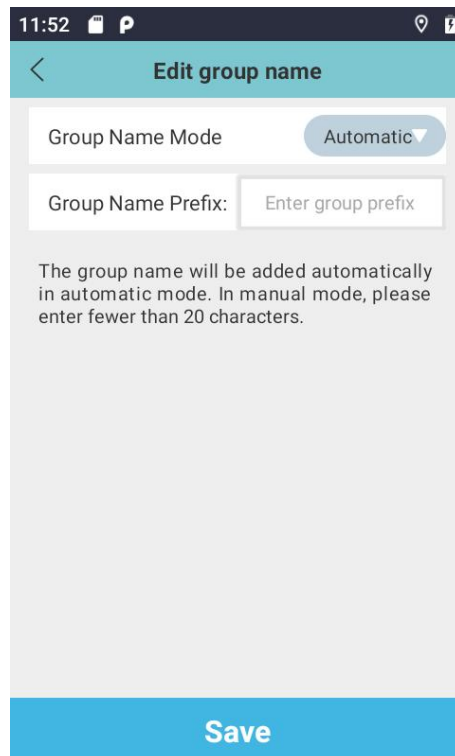

Figure 6.4
- b. Group Name: A text box showing the measurement location name. By default, an automatic group name is generated based on the measurement date and a three-digit serial number (e.g., 20250629000). The serial number increments automatically with each measurement. If the serial number reaches its three-digit limit, an additional digit is automatically appended. Group Name Editing: Clicking the group name field allows the user to edit the name. The Group Name Editing Page (see Figure 6.4) offers two modes: